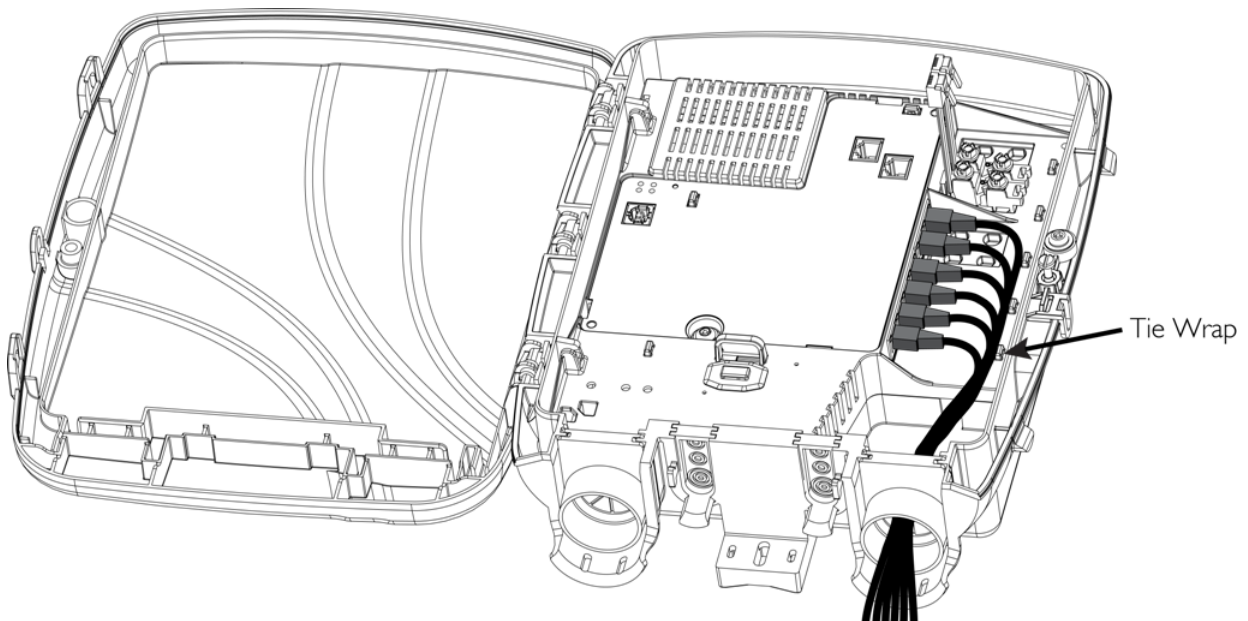

Figure 12: Connecting the LAN Cables
6. Secure the wires with a wire tie, as shown in Figure 12.